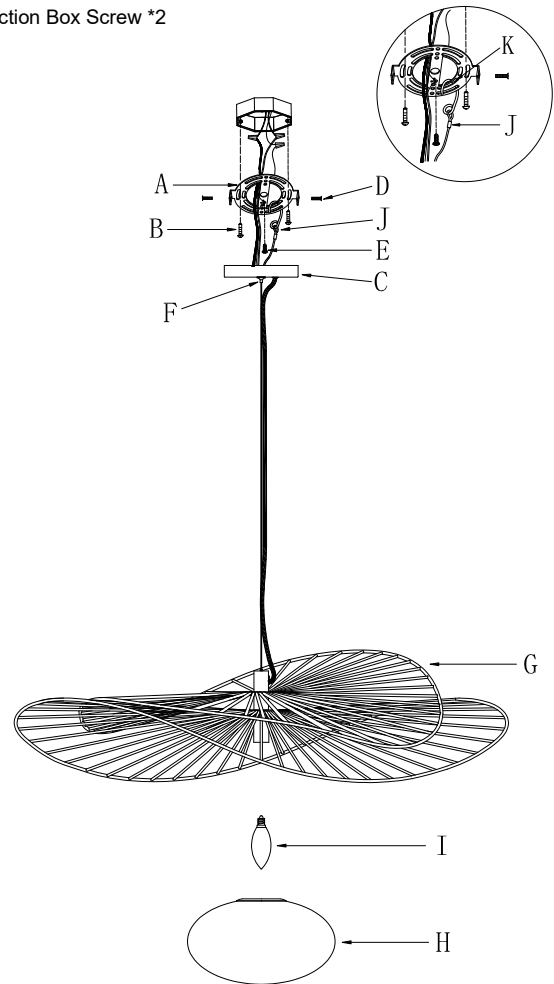

Fig. 2
CONNECTING THE WIRES (Fig. 2)
6. Connect electrical wires as shown in Fig.2, making sure that all wire connectors are secured. If your junction box has a ground wire (green or bare copper), connect fixture's ground wire to it. Otherwise, connect ground wire directly to mounting plate (A) using green screw provided.